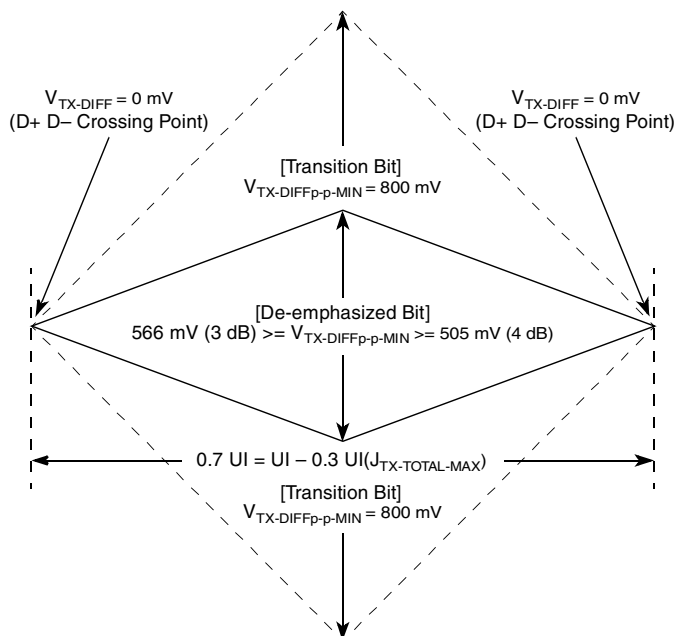
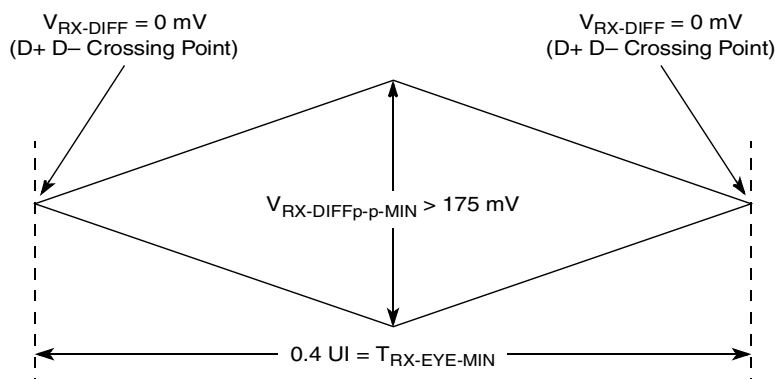
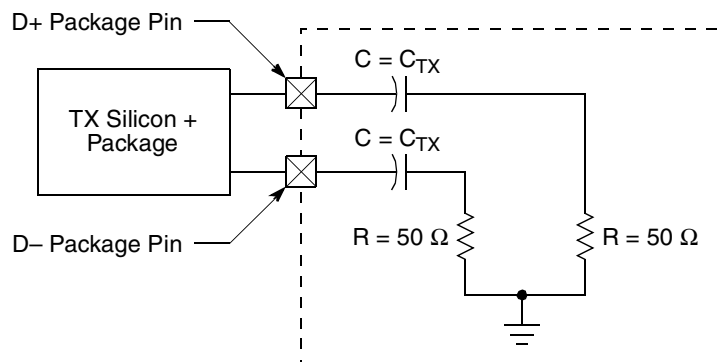

Figure 42. Minimum Transmitter Timing and Voltage Output Compliance Specifications
Figure 43. Minimum Receiver Eye Timing and Voltage Compliance Specification
Figure 44. Compliance Test/Measurement Load
2. Specified at the measurement point into a timing and voltage compliance test load as shown in Figure 44 and measured over any 250 consecutive Tx UIs. (Also refer to the transmitter compliance eye diagram shown in Figure 42.)
4. The transmitter input impedance will result in a differential return loss greater than or equal to 12 dB and a common mode return loss greater than or equal to 6 dB over a frequency range of 50 MHz to 1.25 GHz. This input impedance requirement applies to all valid input levels. The reference impedance for return loss measurements is 50 Ω to ground for both the D+ and D– line (that is, as measured by a vector network analyzer with 50- Ω probes, see Figure 44). Note that the series capacitors, C_{TX} , is optional for the return loss measurement.
5. Measured between 20%–80% at transmitter package pins into a test load as shown in Figure 44 for both V_{TX-D+} and V_{TX-D-} .
The Tx eye diagram in Figure 42 is specified using the passive compliance/test measurement load (see Figure 44) in place of any real PCI Express interconnect + Rx component. There are two eye diagrams that must be met for the transmitter. Both diagrams must be aligned in time using the jitter median to locate the center of the eye diagram. The different eye diagrams differ in voltage depending on whether it is a transition bit or a de-emphasized bit. The exact reduced voltage level of the de-emphasized bit is always relative to the transition bit.
2. Specified at the measurement point and measured over any 250 consecutive UIs. The test load in Figure 44 should be used as the Rx device when taking measurements (also refer to the receiver compliance eye diagram shown in Figure 43). If the clocks to the Rx and Tx are not derived from the same reference clock, the Tx UI recovered from 3500 consecutive UI must be used as a reference for the eye diagram.
4. The receiver input impedance will result in a differential return loss greater than or equal to 10 dB with the D+ line biased to 300 mV and the D– line biased to –300 mV and a common mode return loss greater than or equal to 6 dB (no bias required) over a frequency range of 50 MHz to 1.25 GHz. This input impedance requirement applies to all valid input levels. The reference impedance for return loss measurements for is 50 Ω to ground for both the D+ and D– line (that is, as measured by a vector network analyzer with 50- Ω probes, see Figure 44). Note that the series capacitors, C_{TX} , is optional for the return loss measurement.
The Rx eye diagram in Figure 43 is specified using the passive compliance/test measurement load (see Figure 44) in place of any real PCI Express Rx component. In general, the minimum receiver eye diagram measured with the compliance/test measurement load (see Figure 44) is larger than the minimum receiver eye diagram measured over a range of systems at the input receiver of any real PCI Express component. The degraded eye diagram at the input receiver is due to traces internal to the package as well as silicon parasitic characteristics that cause the real PCI Express component to vary in impedance from the
compliance/test measurement load. The input receiver eye diagram is implementation specific and is not specified. Rx component designer should provide additional margin to adequately compensate for the degraded minimum receiver eye diagram (shown in Figure 43) expected at the input receiver based on an adequate combination of system simulations and the return loss measured looking into the Rx package and silicon. The Rx eye diagram must be aligned in time using the jitter median to locate the center of the eye diagram.
The reference impedance for return loss measurements is 50 Ω to ground for both the D+ and D– line (that is, as measured by a Vector Network Analyzer with 50 Ω probes—see Figure 44). Note that the series capacitors, $C_{PEACCTX}$, are optional for the return loss measurement.
The AC timing and voltage parameters must be verified at the measurement point, as specified within 0.2 inches of the package pins, into a test/measurement load shown in Figure 44.